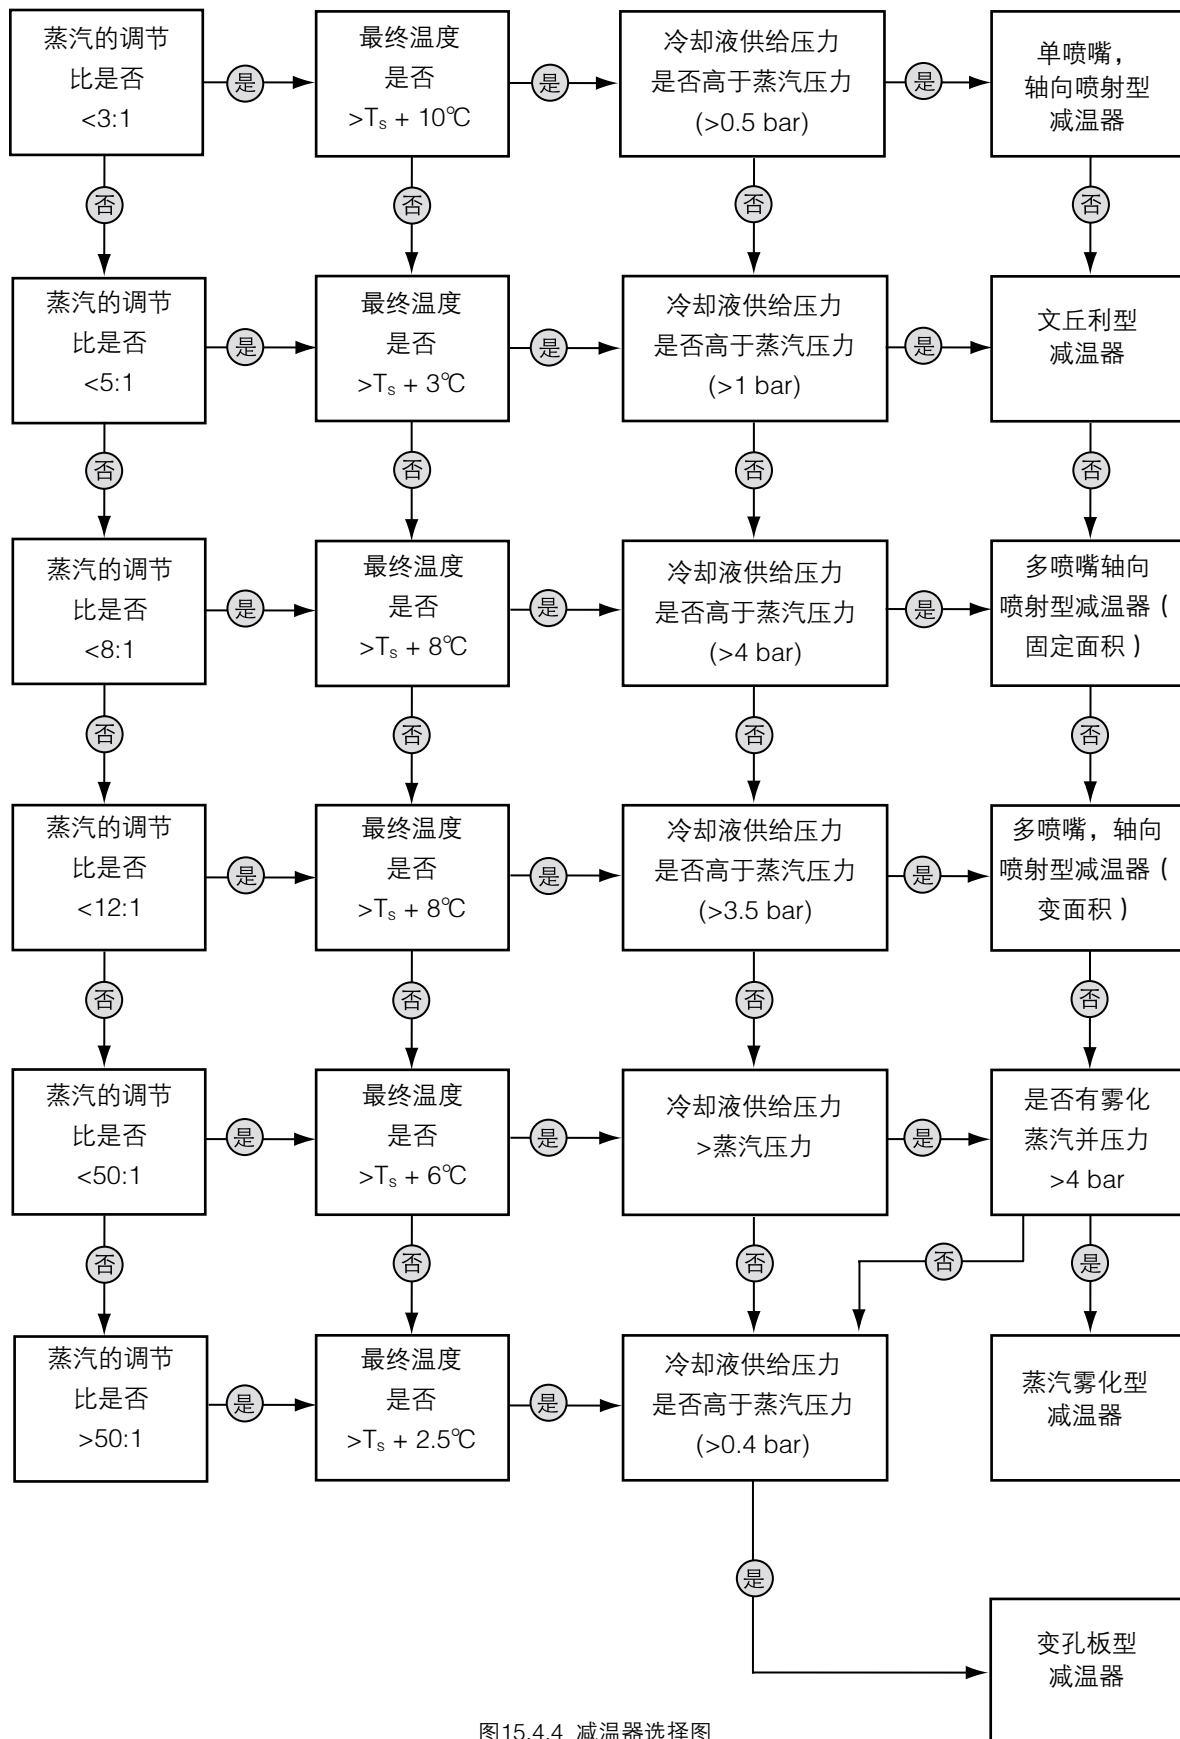

图15.4.4 减温器选择图
典型的制造商选型表如图15.4.4所示，它基于表15.3.1中的减温器的典型性能和安装特性。
5. Using the selection chart (figure 15.4.4), which type of desuperheater would be most suitable for use in a sugar refinery for the following conditions? The site already has a boiler producing 10 bar g saturated steam. Coolant is available at 14 bar g.